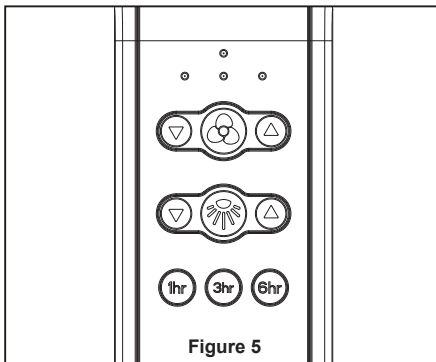

Figure 5
- ☐ 5. Route wires through motor coupling cover and slide motor coupling cover onto the downrod. Seat the motor coupling cover on the motor assembly. (Figure 5)
4. After connections have been made, the wires should be spread apart with the grounded conductor and the equipment-grounding conductor on one side of the outlet box and the ungrounded conductor on the other side of outlet box, then turn leads upward and carefully push leads into the outlet box, with the white and green leads to one side of the box and the black leads to the other side. (Figure 5)
- ☐ **5. Remote functions:** (Figure 5)